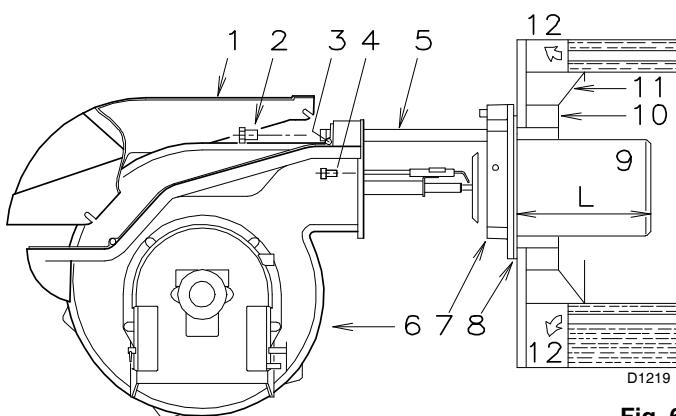

Fig. 6
5.4 Blast tube length (Fig. 6)
For boilers having a water-cooled front the refractory fettling 10)-11) (Fig. 6) is not required unless it is expressly requested by the boiler manufacturer.
Once this operation has been carried out (if it was required), secure flange 7) (Fig. 6) to the boiler plate interposing the supplied gasket 8). Use the 4 screws provided after having protected the thread with antiscruffing products.
- Retract the burner on its slide bars as shown in (Fig. 6, page 10).